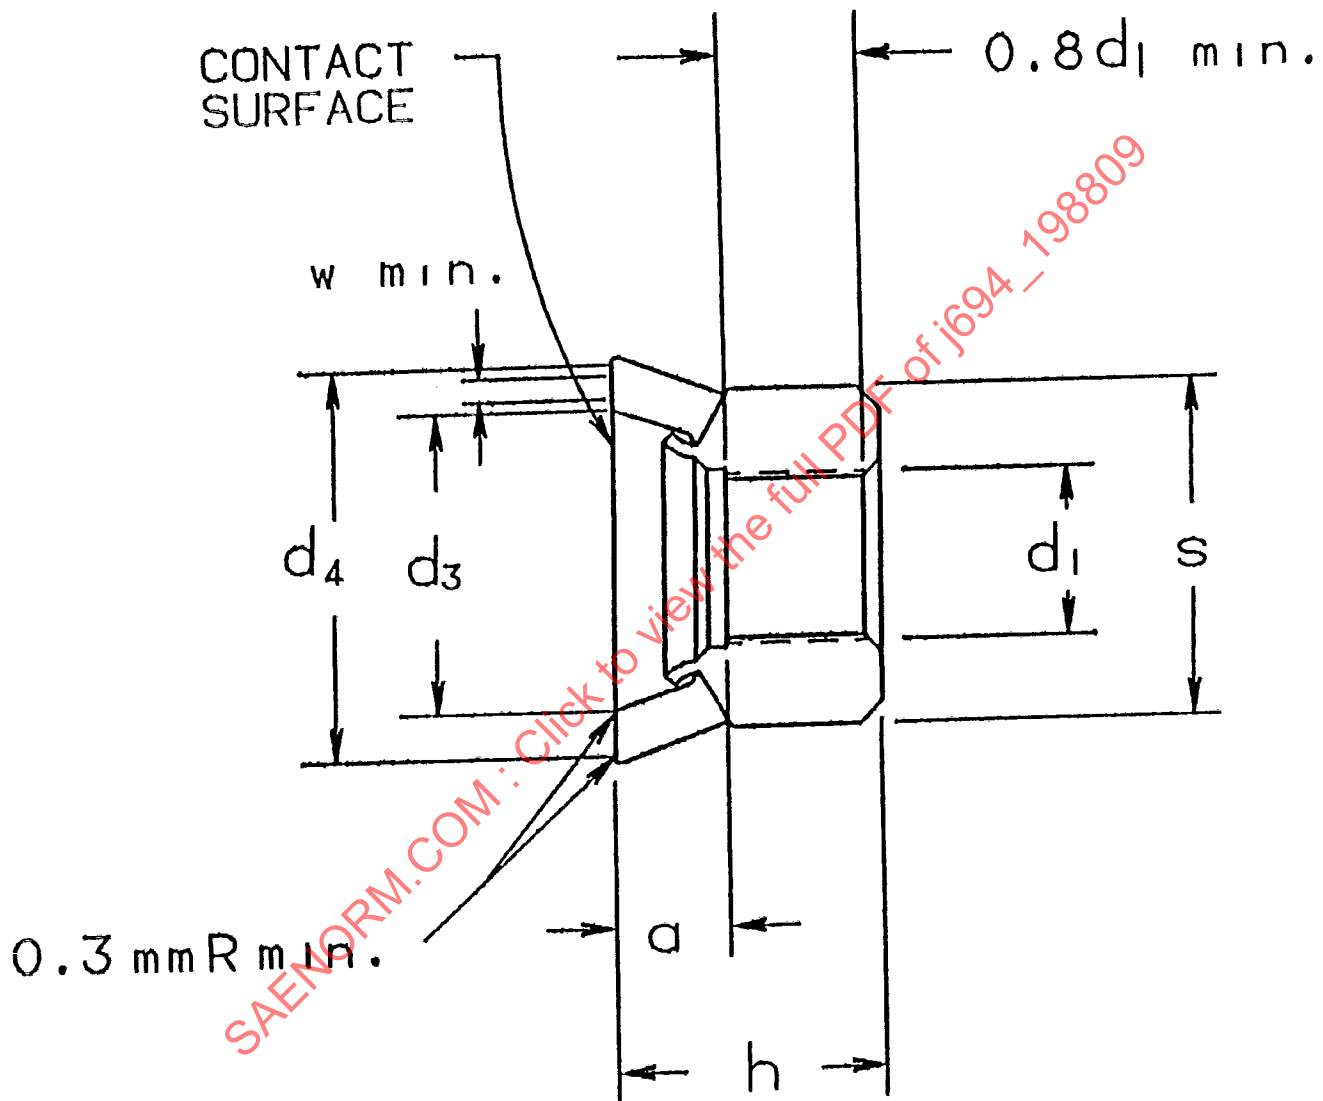

FIGURE 4 - Two Piece Flange Nut
5.3.1 Definitions of Fastener Dimensions (Ref. Fig. 4):